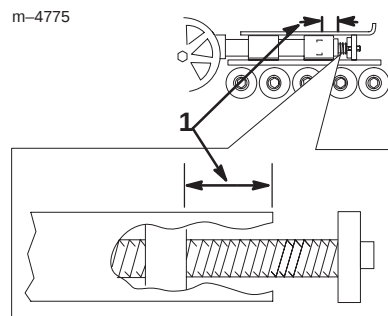

Figure 35
Check and adjust the track tension every 100 operating hours. There should be 2-3/4 in. (7 cm.) between the tension nut and the back of the tension tube (Fig. 35). If not, adjust the track tension using the following procedure:
4. Using a 1/2 in. drive socket (Fig. 38), turn the tensioning screw counter-clockwise until the distance between the tension nut and the back of the tension tube (Fig. 35) is 2-3/4 in. (7 cm.).
11. Turn the tensioning screw counter-clockwise until the distance between the tension nut and the back of the fork tube (Fig. 35) is 2 3/4 in. (7 cm.).
17. Turn the tensioning screw counter-clockwise until the distance between the tension nut and the back of the tension tube (Fig. 35) is 2-3/4 in. (7 cm.).